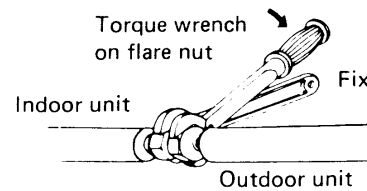

Fig. 28
2. Flare nut on large dia. tube should be torqued to 510 ~ 550 lbs. in. Flare nut small dia. tube should be torqued to 130 ~ 170 lbs. in. Fig. 28